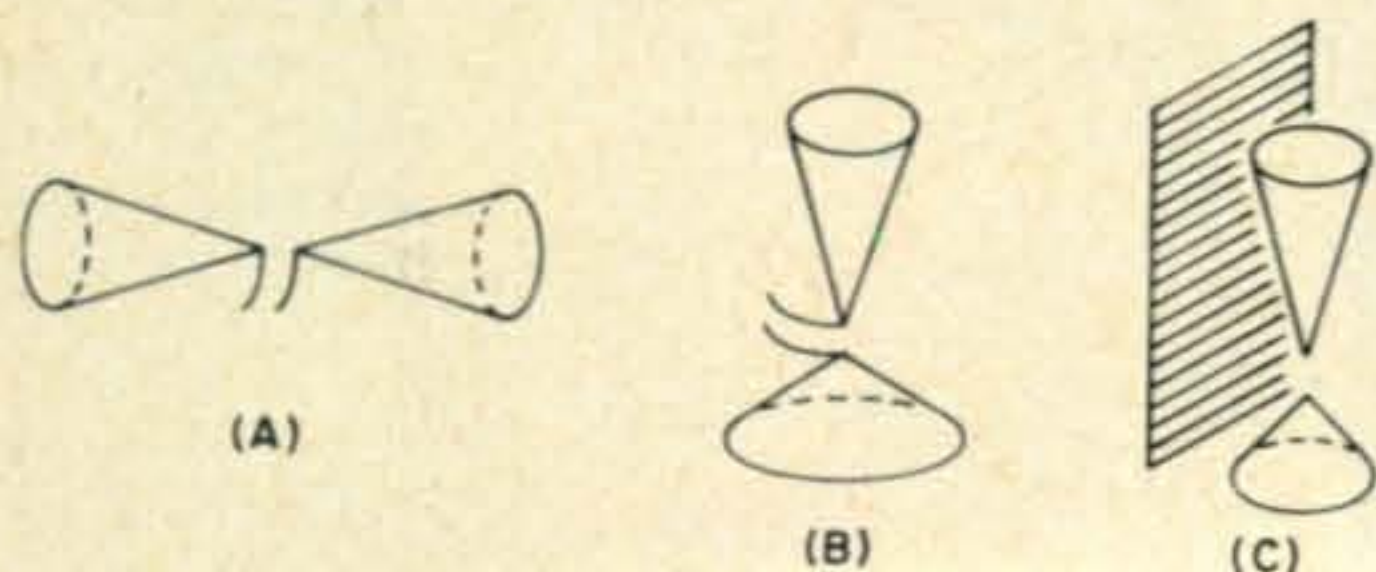

Fig. 1—Types of u.h.f. antennas studied for broad-band h.f. usage. Horizontal cone dipole (A), vertical type (B) and vertical with reflector screen (C).
The experiments were concerned with studying the three forms shown in fig. 1. Figure 1(A) is a conventional cone element dipole antenna of the type used at u.h.f. frequencies. Figure 1(B) is a vertical version of the conical dipole and Figure 1(C) is the same antenna shown at Figure 1(B) except that a reflector screen is added behind the antenna. The purpose of the screen was to determine if the basic design could also be used as a broad-band directive antenna.